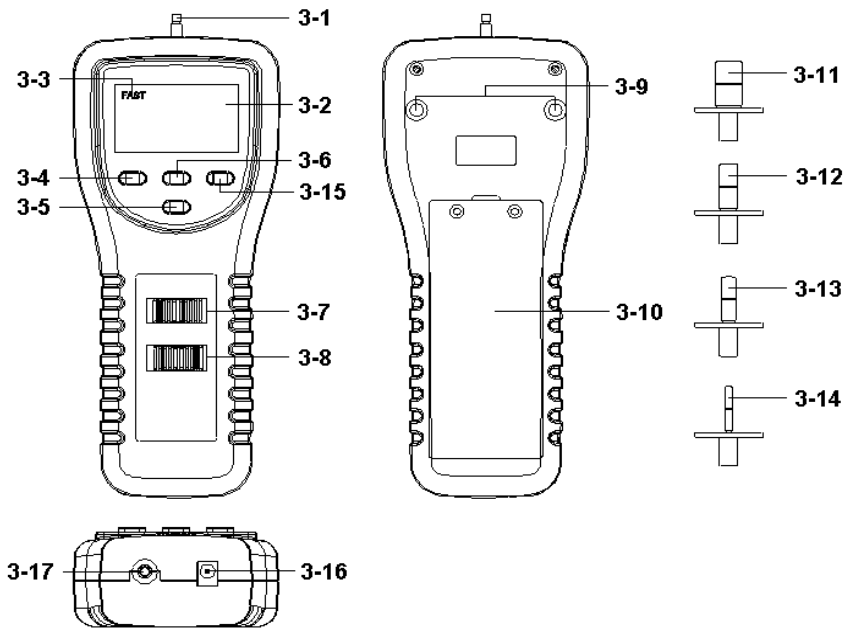

Fig. 1
- 1) Slide the " Power Off/On/Peak Hold Switch " (3-8, Fig. 1) to the " On " position.
- 2) Determine display unit of g, oz or Newton by selecting " Kg/Newton/LB Unit Switch " (3-7, Fig. 1).
- 3) Connect " Sensing Head " (3-1, Fig. 1) with proper " Adapter " (3-11 to 3-14, Fig. 1) and the " Measuring Object " should be in straight line. Don't give any force in standby mode..
- 4) " Zero Adjust " by pushing " Zero Button " (3-6, Fig. 1) before every measurement.
** During the measurement, if intend to change the display direction, just push the " Reverse Button " (3-5, Fig. 1) once.*
- * There are two kind sampling time of display, FAST and SLOW. Push the " FAST/SLOW Button " once (3-4, Fig. 1), if the upper left corner of LCD show " FAST " (Fast Indicator, 3-3, Fig. 1), then the display reading is under the operation of fast sampling time.
- * If the upper left corner of LCD not show the " Fast Indicator " (3-3, Fig. 1), the display reading is under the slow sampling time.
The meter can measure the peak value of force both of tension & compression operation. The operation procedures of Peak Hold Measurement are same as above " 4-2 Normal Measurement " but should slide the " Power Off/On/Peak Hold Switch " (3-8, Fig. 1) to the " PEAK H. " position.
Slide the " Power Off/On/Peak Hold Switch " (3-8, Fig. 1) to the " On " position will cancel the peak hold function.
During the measurement, press and hold (> 2 seconds) the " * Button " (3-15, Fig. 1) until LCD Back Light is ON, then it will be off after a period time. several seconds then off automatically
- 2) Take out the battery cover (3-10, Fig. 1) away from the instrument and remove the batteries.
The instrument features an RS232 output via 3.5 mm Terminal (3-17, Fig. 1).
Fruit hardness tester is a precise instrument, best results are obtained when the gauge is fitted to a test stand. Mounting holes (3-9, Fig. 1) are provided on the back of the gauge for easy stand mounting.